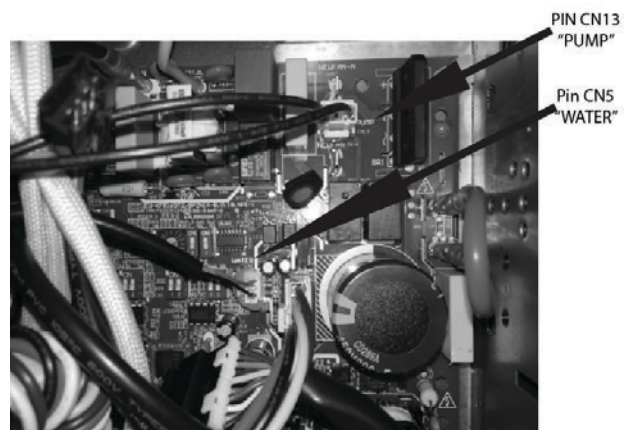

Fig. 23 — Condensate Lift Pump Connectors
- Plug the power cable of the external pump to CN13 / "PUMP" pin and plug the water level sensor cable to the CN5 / "WATER" to enable the pump (see Fig. 23).